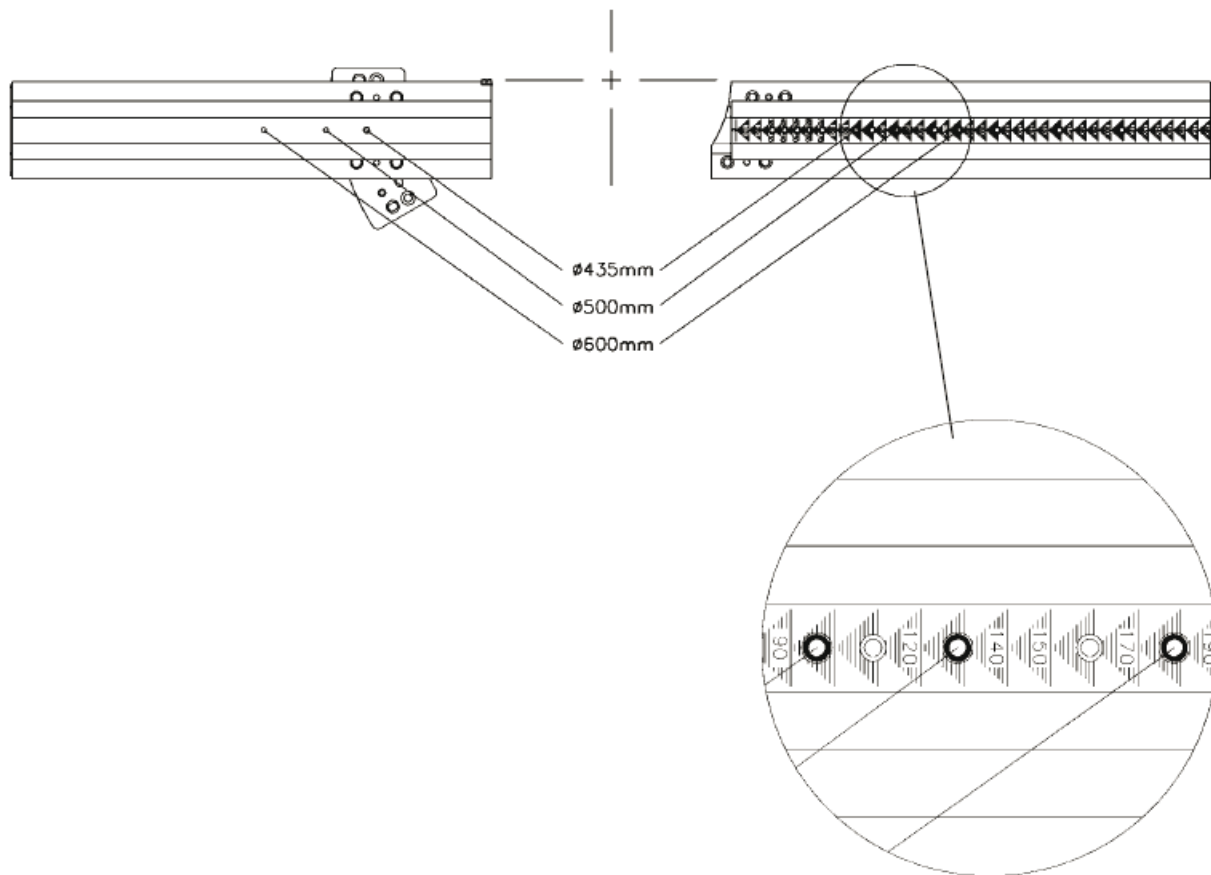

Figure 4.6 Predefined measurement circle diameter pin locations
4. Use Figure 4.6 to set the predefined measurement circle diameter on the theta and 2-theta tracks.